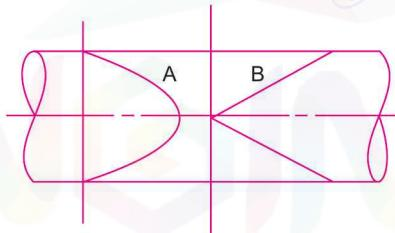

Fig. 2
- 200.** For a viscous flow through circular pipes, certain curves are shown in Fig. 2, curve A is for
- 201.** Curve B in Fig. 2 is for